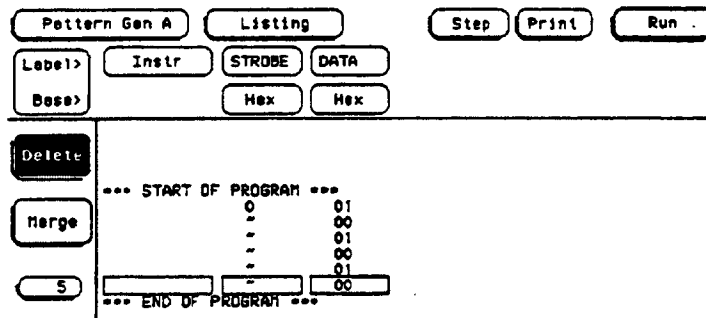

Figure 4-5. Delete Field
- e. Touch **Delete**. See figure 4-5.